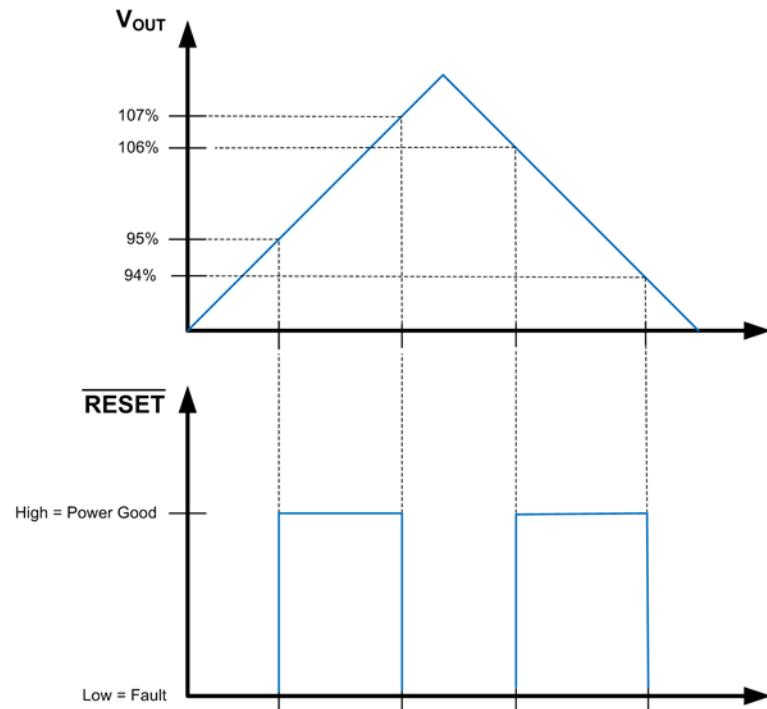
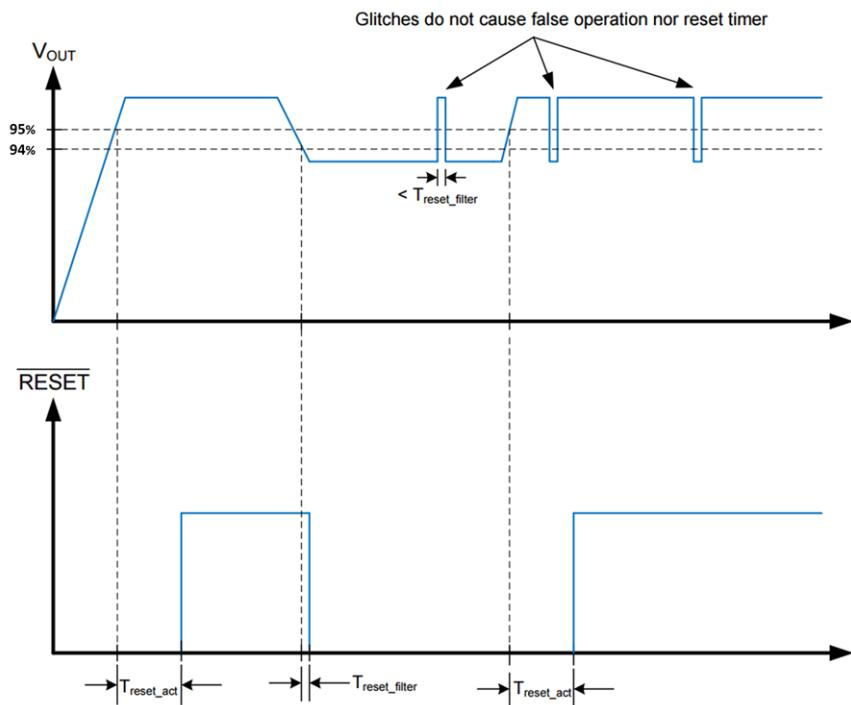
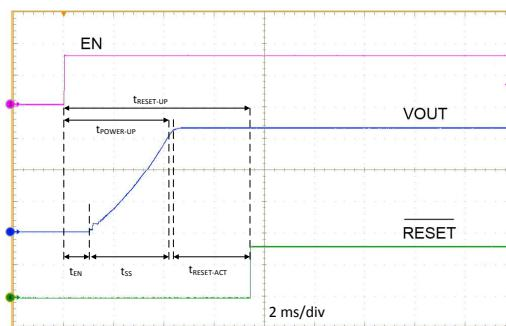

Figure 10. Static $\overline{\text{RESET}}$ Operation
Figure 11. RESET Timing Behavior
Figure 12. Typical Start-Up Waveform
- A delay has been added between the point at which the output voltage is within specified limits and the flag asserts Power Good. A glitch filter prevents false flag operation for short excursions in the output voltage, such as during line and load transients. See Figure 11 and Figure 12 for more detail.
Because the RESET comparator and the regulation loop share the same reference, the thresholds track with the output voltage. When EN is pulled low, the RESET flag output is forced low. When the device is disabled, RESET remains valid as long as the input voltage is ≥ 1.5 V. RESET operation can best be understood by reference to Figure 10 and Figure 11. Output voltage excursions lasting less than $T_{RESET-filter}$ do not trip RESET. Once the output voltage is within the prescribed limits, a delay of $T_{RESET-act}$ is imposed before RESET goes high. This enables tighter tolerance than is possible with an external supervisor device while also expanding the system allowance for transient response without the need for extremely accurate internal circuitry.
A typical start-up waveform is shown in Figure 12 along with timing definitions. This waveform indicates the sequence and timing between the enable input, output voltage, and RESET. From the figure, the user can define several different start-up times depending on what is relevant to the application. Table 2 lists the timing definitions and typical values.